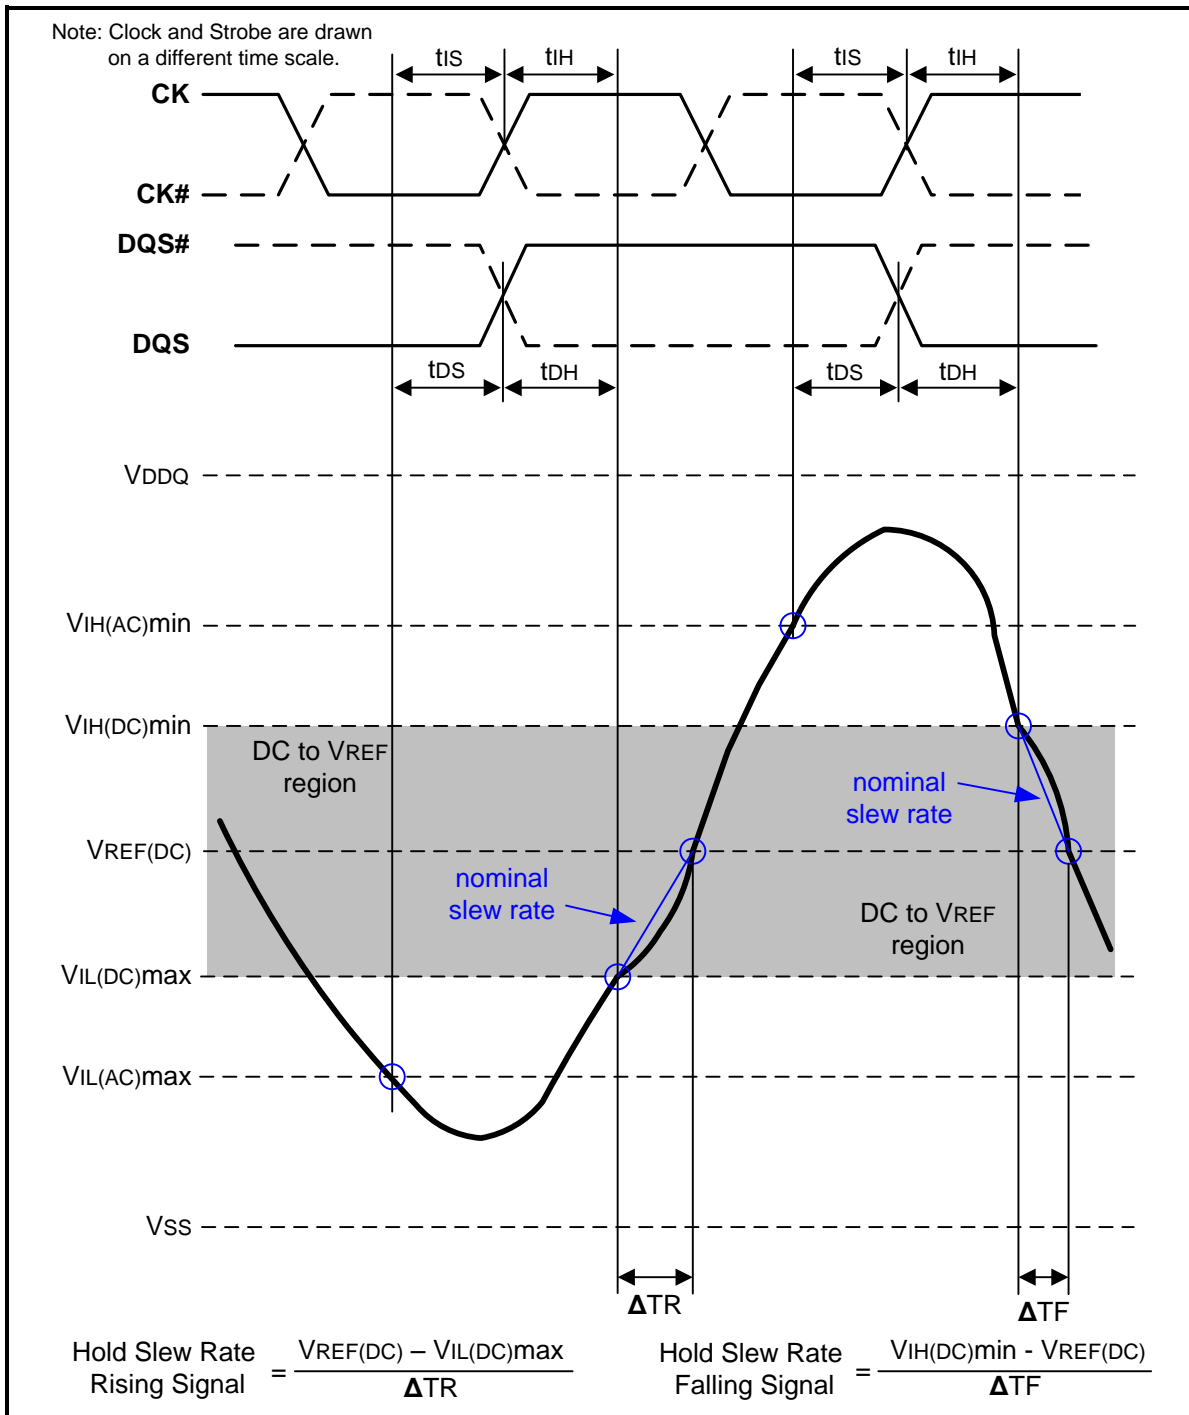
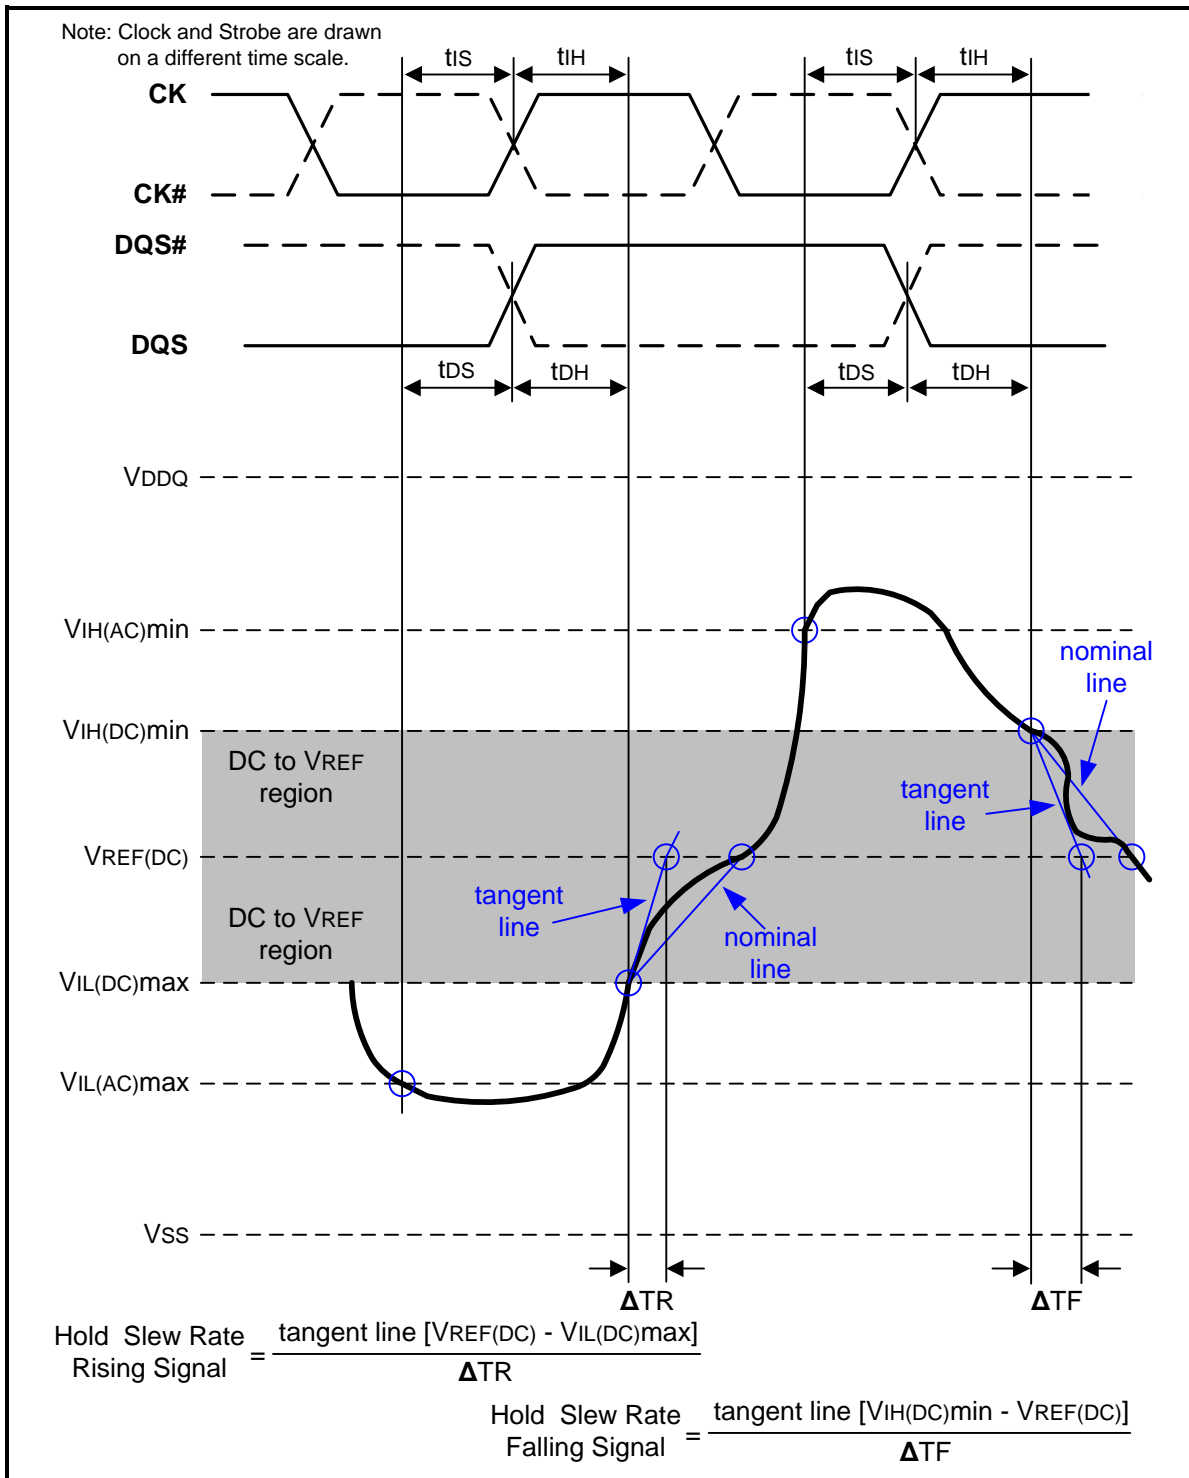

Figure 108 – Illustration of nominal slew rate for hold time tDH (for DQ with respect to strobe) and tIH (for ADD/CMD with respect to clock)
Figure 110 – Illustration of tangent line for hold time tDH (for DQ with respect to strobe) and tIH (for ADD/CMD with respect to clock)
Hold ( $t_{IH}$ ) nominal slew rate for a rising signal is defined as the slew rate between the last crossing of  $V_{IL}(\text{DC})_{\text{max}}$  and the first crossing of  $V_{REF}(\text{DC})$ . Hold ( $t_{IH}$ ) nominal slew rate for a falling signal is defined as the slew rate between the last crossing of  $V_{IH}(\text{DC})_{\text{min}}$  and the first crossing of  $V_{REF}(\text{DC})$ . If the actual signal is always later than the nominal slew rate line between shaded 'DC to VREF(DC) region', use nominal slew rate for derating value (see Figure 108). If the actual signal is earlier than the nominal slew rate line anywhere between shaded 'DC to VREF(DC) region', the slew rate of a tangent line to the actual signal from the DC level to  $V_{REF}(\text{DC})$  level is used for derating value (see Figure 110).
Hold (tDH) nominal slew rate for a rising signal is defined as the slew rate between the last crossing of VIL(DC)max and the first crossing of VREF(DC). Hold (tDH) nominal slew rate for a falling signal is defined as the slew rate between the last crossing of VIH(DC)min and the first crossing of VREF(DC) (see Figure 108). If the actual signal is always later than the nominal slew rate line between shaded 'DC level to VREF(DC) region', use nominal slew rate for derating value. If the actual signal is earlier than the nominal slew rate line anywhere between shaded 'DC to VREF(DC) region', the slew rate of a tangent line to the actual signal from the DC level to VREF(DC) level is used for derating value (see Figure 110).